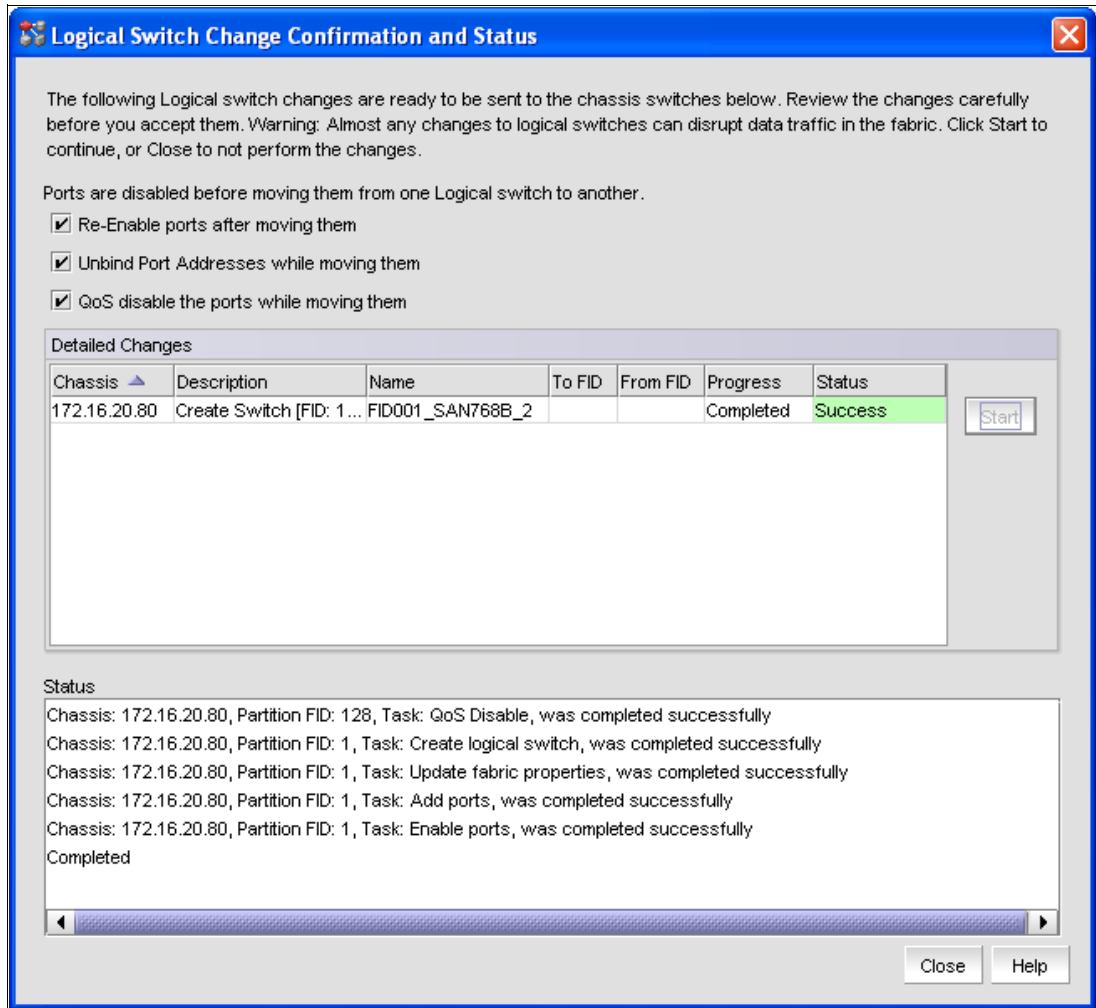

Figure 8-35 Logical Switch Change Confirmation and Success State
16. Wait for the changes to complete. After the status Success displays, click **Close**. See Figure 8-35 on page 275.